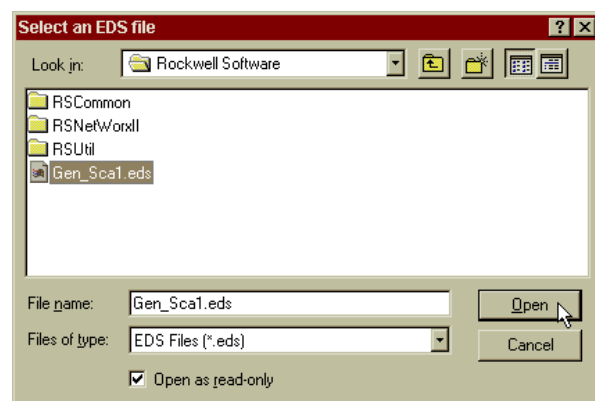

FIG. 113: SELECTING THE HARDY EDS FILE
- Step 7. Click on the Browse button. The Select EDS file dialog box appears. Go to the folder that contains the Hardy EDS file. We put the file in the Rockwell Software folder. (See Fig. 113)
- Step 9. Click on Open. (See Fig. 113)